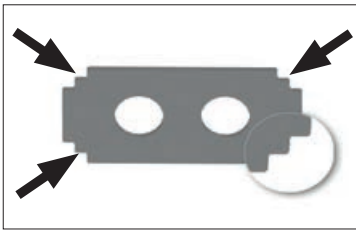
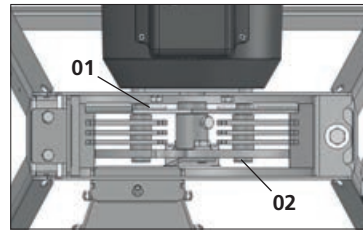

Fig. 23
Fig. 24
The shredding moveable hammers have teeth on all 4 sides [Fig. 23]. Change the usage position whenever you detect wear and change the hammers whenever all four sides are worn out. To alter the usage side remove the lock pins from the axis (1) and remove the released axis (2) through the chute for green products the models TE30T, TE40T, T40T and TE40Tc or through the lid (model T50T). Then change the operating face of the hammers [Fig. 24]. If you remove one of the lock pins (1), please do not reuse it. Instead, replace it with a new lock pin to prevent accidents.